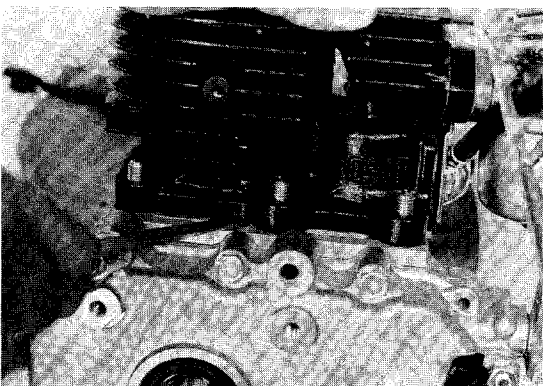

Figure 6-13
4. Lift cylinder (58) off crankcase (**Figure 6-13**).